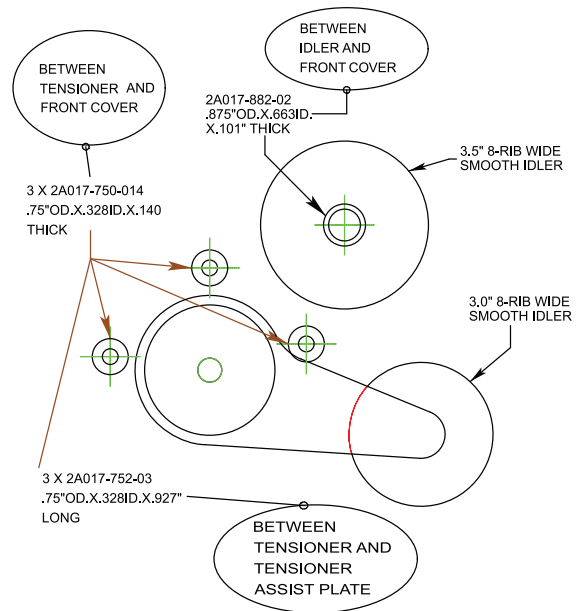

Fig. 6.1-C1 (optional)
- D. Remove the factory idler pulley located just above the spring tensioner location. Replace with the supplied 3.5" idler (4FU016-021) and .875"OD x .663"ID x .101" thick spacer (2A017-882-02) using the factory hardware. (See Fig. 6.1-a.)